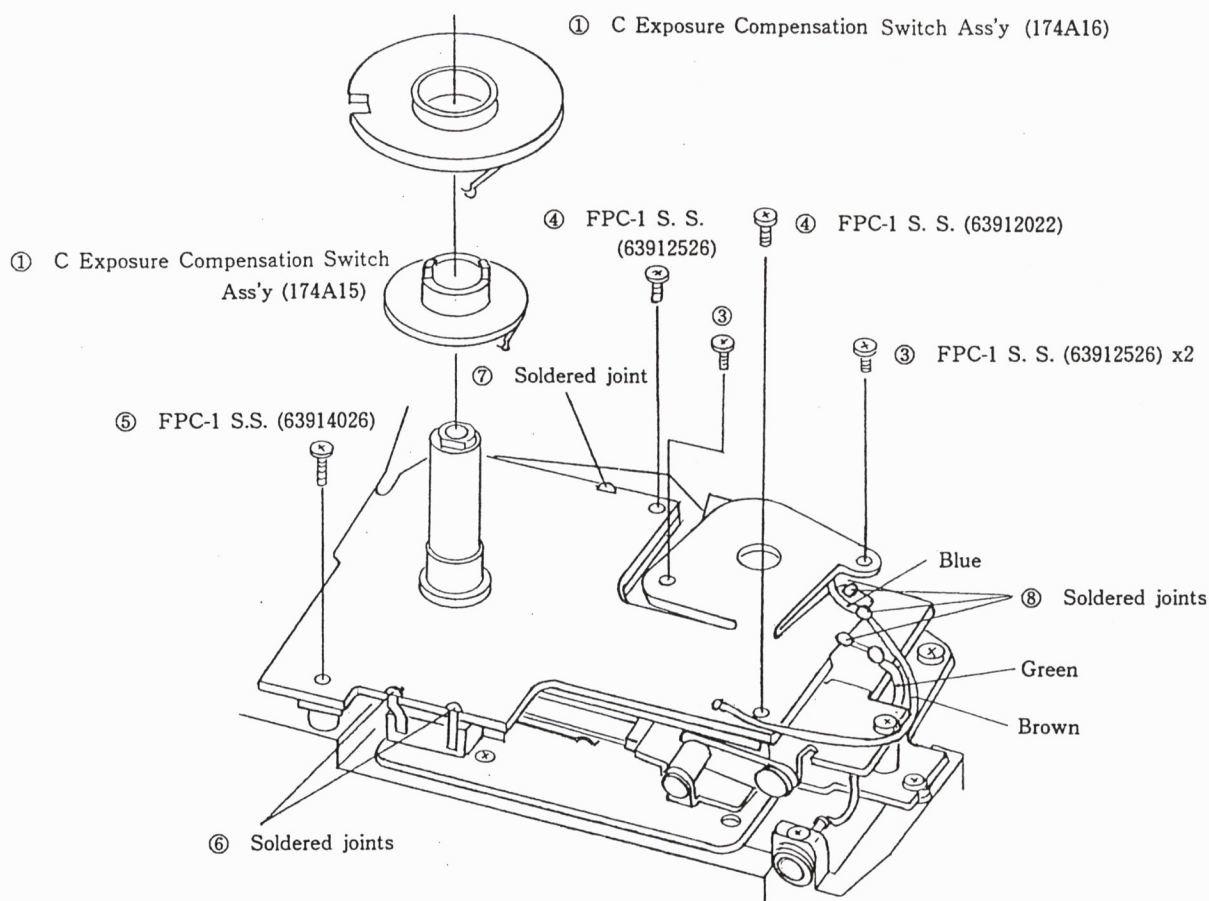

Fig. 6
1) Remove the respective parts ①~⑤ shown in (Fig. 6) in numerical order.